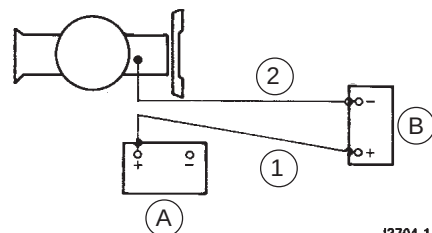

Fig. 16 — Correct Connections of Vehicle Booster Battery
NOTE: Use Fig. 16 for all applications. Vehicle and industrial use.
1. Position both vehicles close to but not touching one another so that the batteries are near each other (Fig. 16).
3. With both vehicle engines switched off, connect the positive (+) terminal of the booster battery to the positive (+) terminal of the flat battery with the red jumper lead (1) in Fig. 16.
4. Connect one end of the jumper lead #2 (black lead) to the negative (-) terminal of the booster battery. Connect the second end of the #2 jumper lead (black lead) to a clean, bare metal part of the engine to be started with the black jumper lead (2) in Fig. 16.
8. To reduce voltage peaks, switch on the heater blower and the heated rear screen of the vehicle with the flat battery, then disconnect lead (2) first then lead (1).